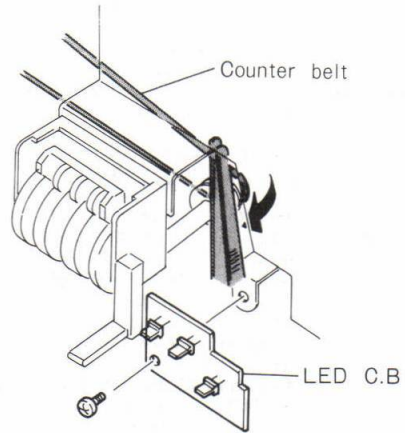

Fig. 8
- 1) The counter belt can be installed with using of tweezers through the cutout behind the LED circuit board. (See Figure 8).